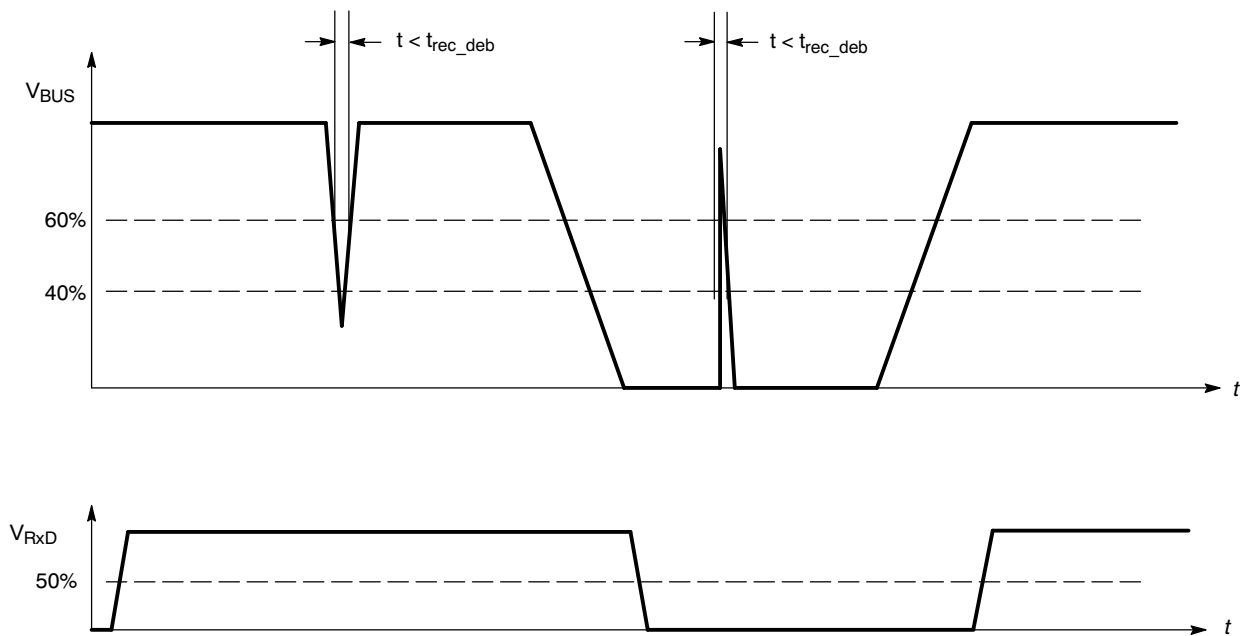
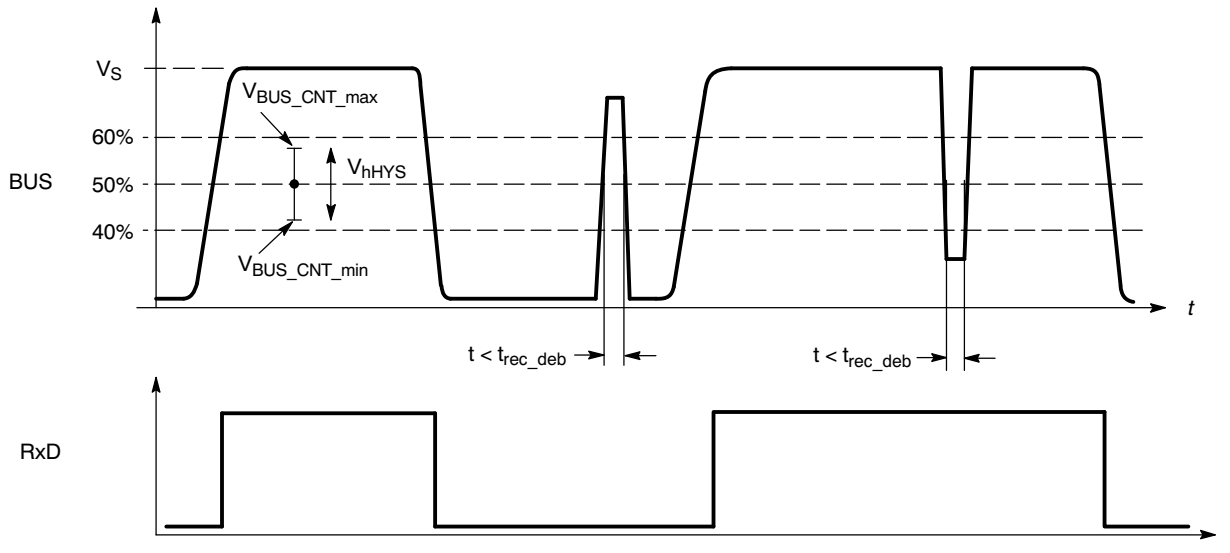

Figure 3. Receiver Debouncing
Figure 7. Receive Impulse Diagram
11. See Figure 3 – Receiver Debouncing.
The signal on the BUS pin will be transferred continuously to the RxD pin. Short spikes on the bus signal are filtered with internal circuitry (Figure 3 and Figure 7).